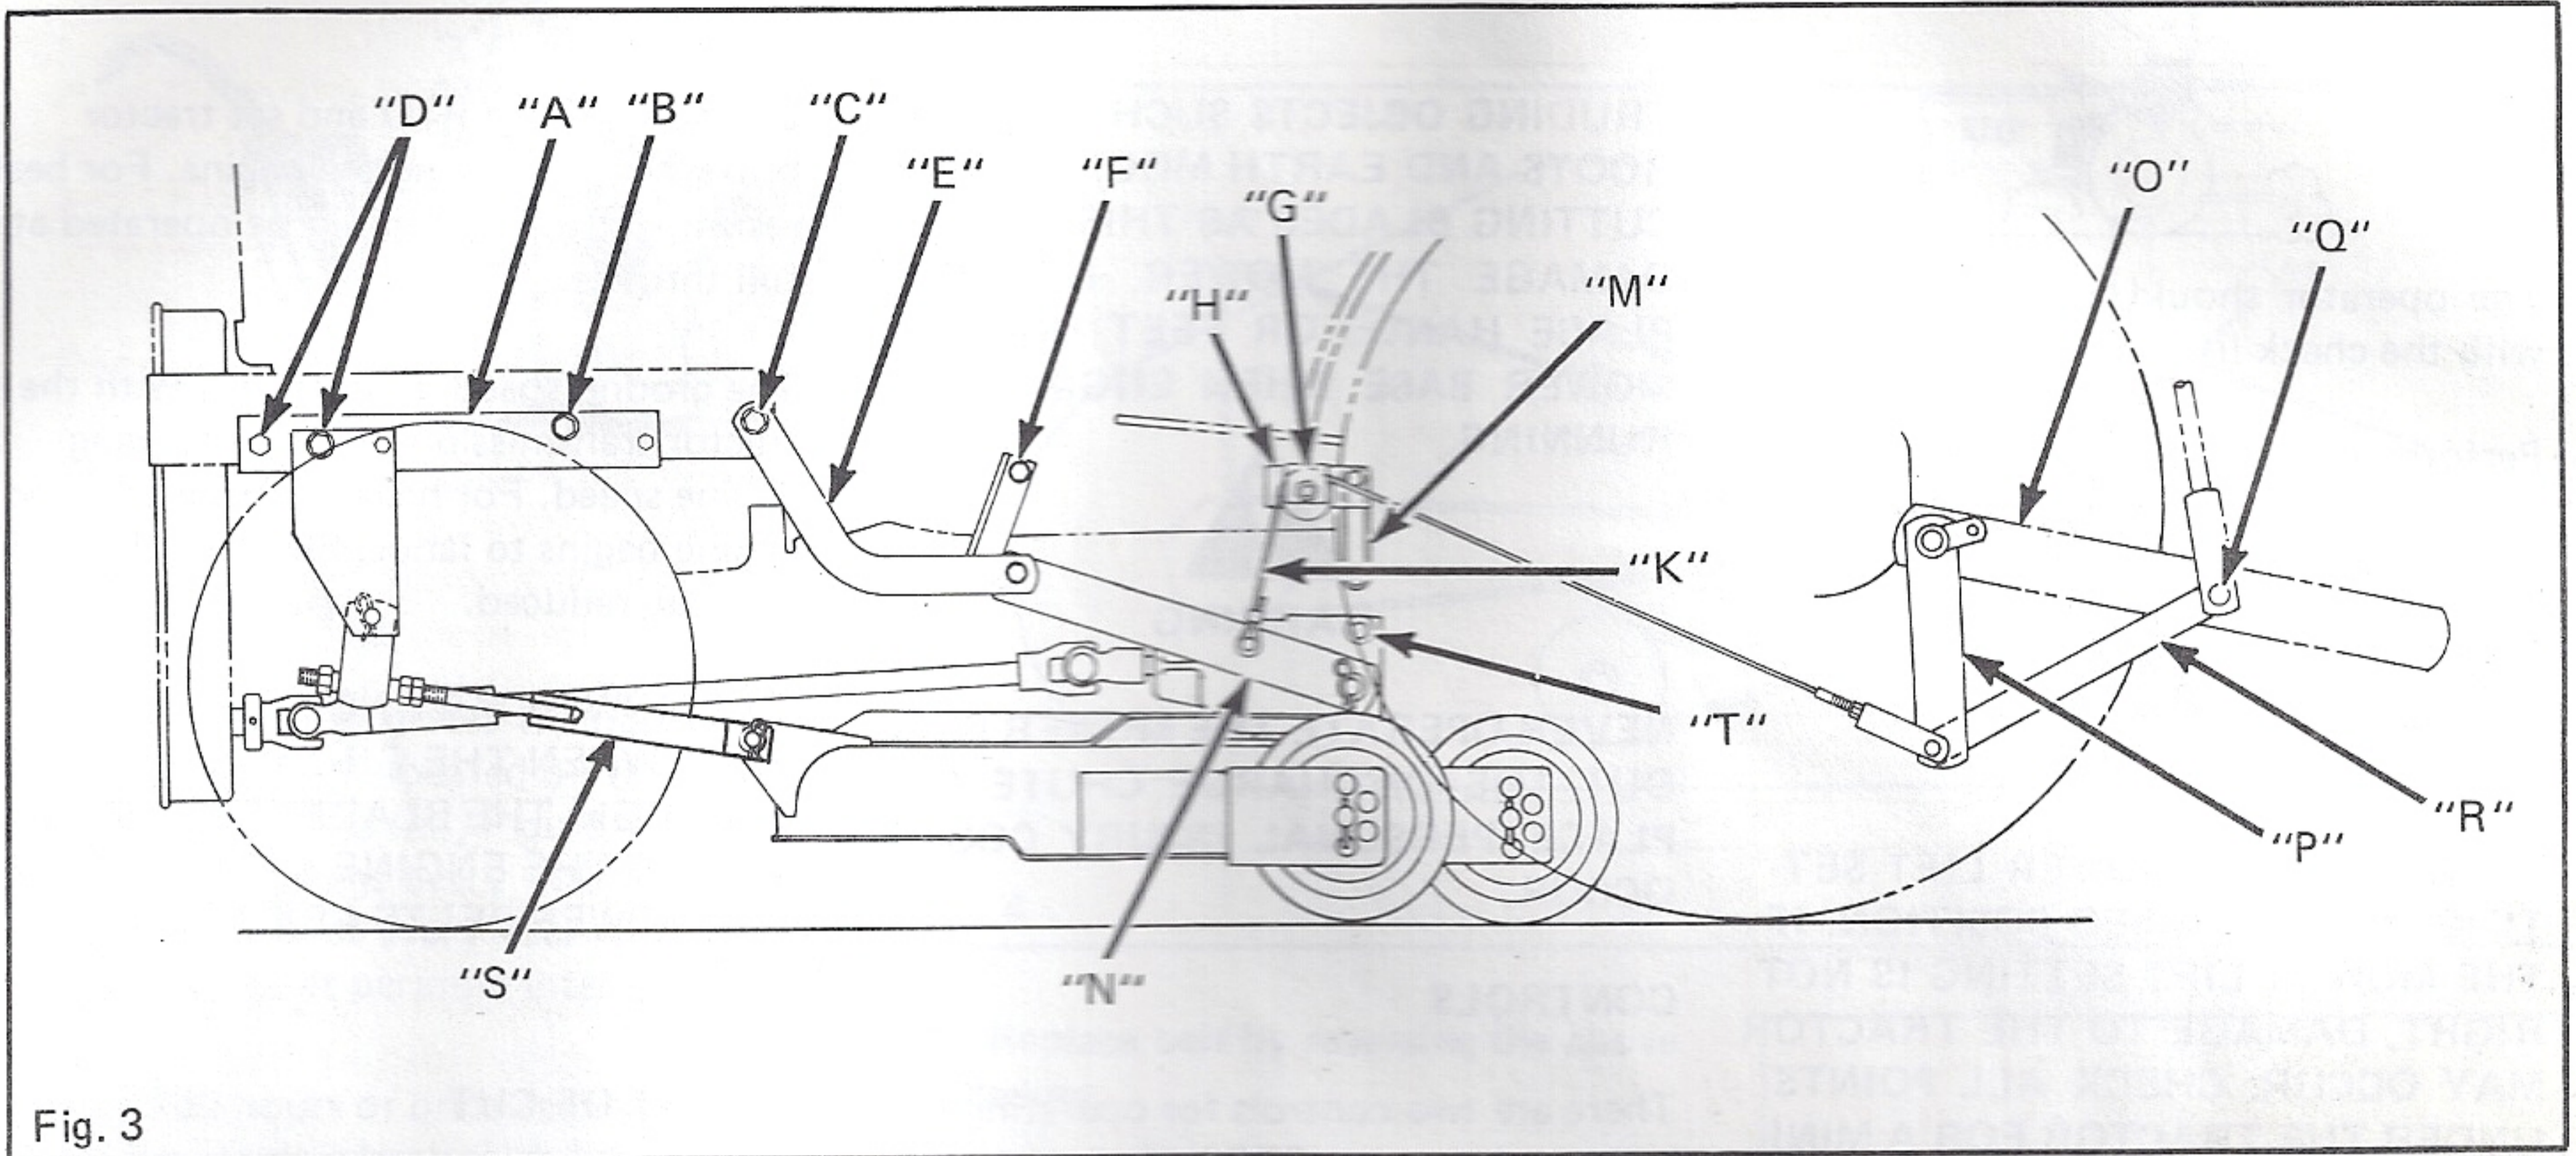

Fig. 3
The mower can be locked in its highest position for transporting. Assemble wire loop (M) Figure 3 over pin (T) of mower and secure with klik pin.